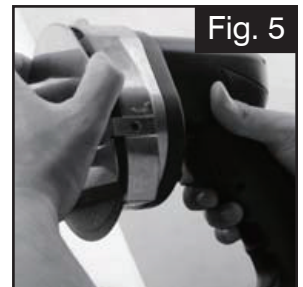

Fig. 5
7. Attach the knife protector and lock screw. (Fig. 5)